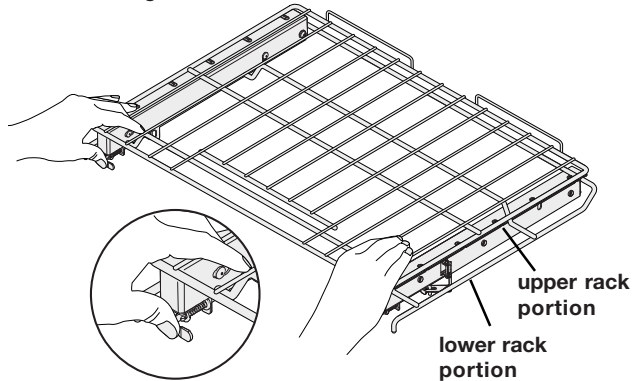

Fig. 1
- **To remove** use thumbs to press in on both left and right spring-loaded release levers *-Fig. 1-*. Place the remainder of both hands over the upper front of the glide rack. While pressing in on both levers, pull the rack straight out **slightly** and release thumb levers. Using both hands grasp **both the upper and lower portions** of the glide rack *(-Fig. 1)*; pull rack using both hands straight out until reaching the stop position *-Fig 2-*. At the stop, lift up front of rack slightly and continue to pull rack away from oven *-Fig 3-*. Be sure to hold on both upper and lower rack portions when removing from or handling rack outside of the oven - these rack portions move independently and are difficult to handle unless held together.